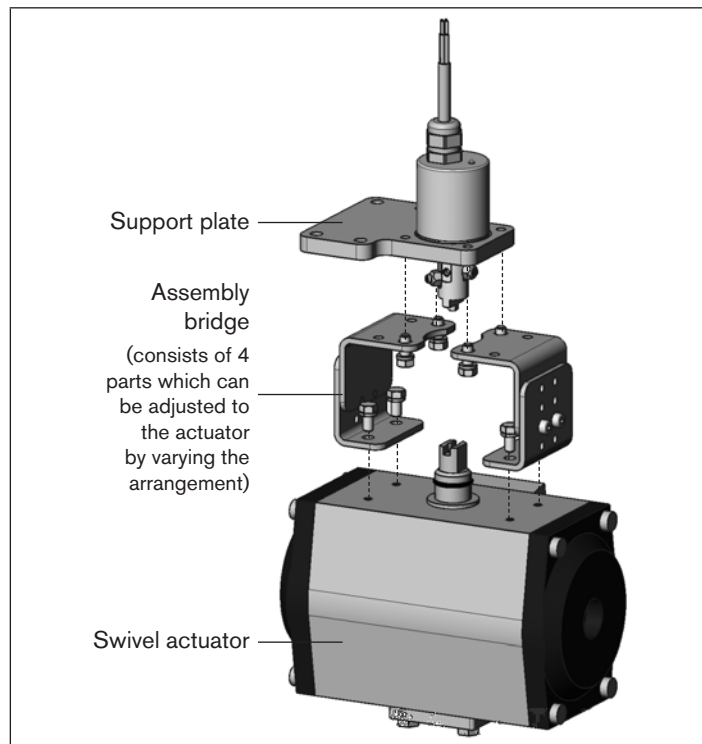

Fig. 23: Fitting the rotating Remote Sensor to a swivel actuator
- Screw the support plate of the rotating Remote Sensor on the assembly bridge, using 4 cheese-head screws and circlips. (Refer to "Fig. 23").
→ Screw assembly bridge on the swivel actuator, using 4 cheese-head screws and circlips (refer to “Fig. 23”).